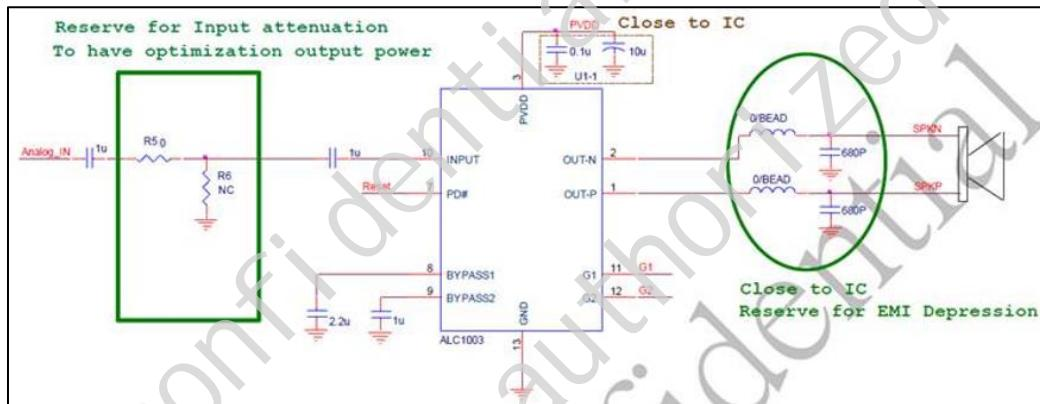

Fig 23-17 Reference design of using D type power amplifier
- If the power amplifier is a D type amplifier, refer to the design shown in Fig 23-17 (power amplifier is ALC1003).
- 当您使用 D 类功放时，请参考 Fig 23-17 设计（功率放大器的型号是 ALC1003）。